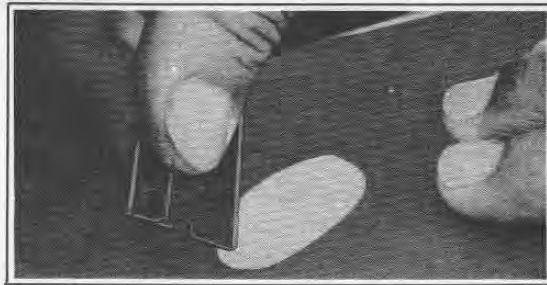

Figure 2-78. Spreading Gel Coat Evenly
8. Spread the gel coat level with the surrounding area and allow to cure (30-60 minutes). See Figure 2-78. Gel coat can be covered with cellophane, if desired, to aid in spreading evenly. Remove cellophane after gel coat has cured.
4. Fill the scratch or hole slightly above the surrounding undamaged area, working the Filler coat into the damaged area with a putty knife. Be careful to puncture and eliminate any air bubbles which may occur. Patch can be covered with cellophane to aid in spreading evenly (see Figure 2-78). Allow to cure completely before removing cellophane.